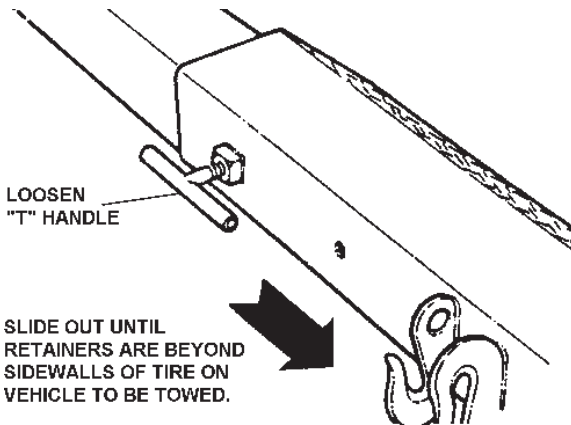

FIGURE 4A.2
- (a) Loosen "T" handle and extend outer crosstube until the tire restraint retainers are just beyond the outer sidewall of tires on the vehicle to be towed. See Figure 4A.2.
- (b) Lower Wheel Lift to ground, then raise until Wheel Lift just clears ground level by use of the Wheel Lift Lift "UP/DOWN" Control. See Figure 4A.3.